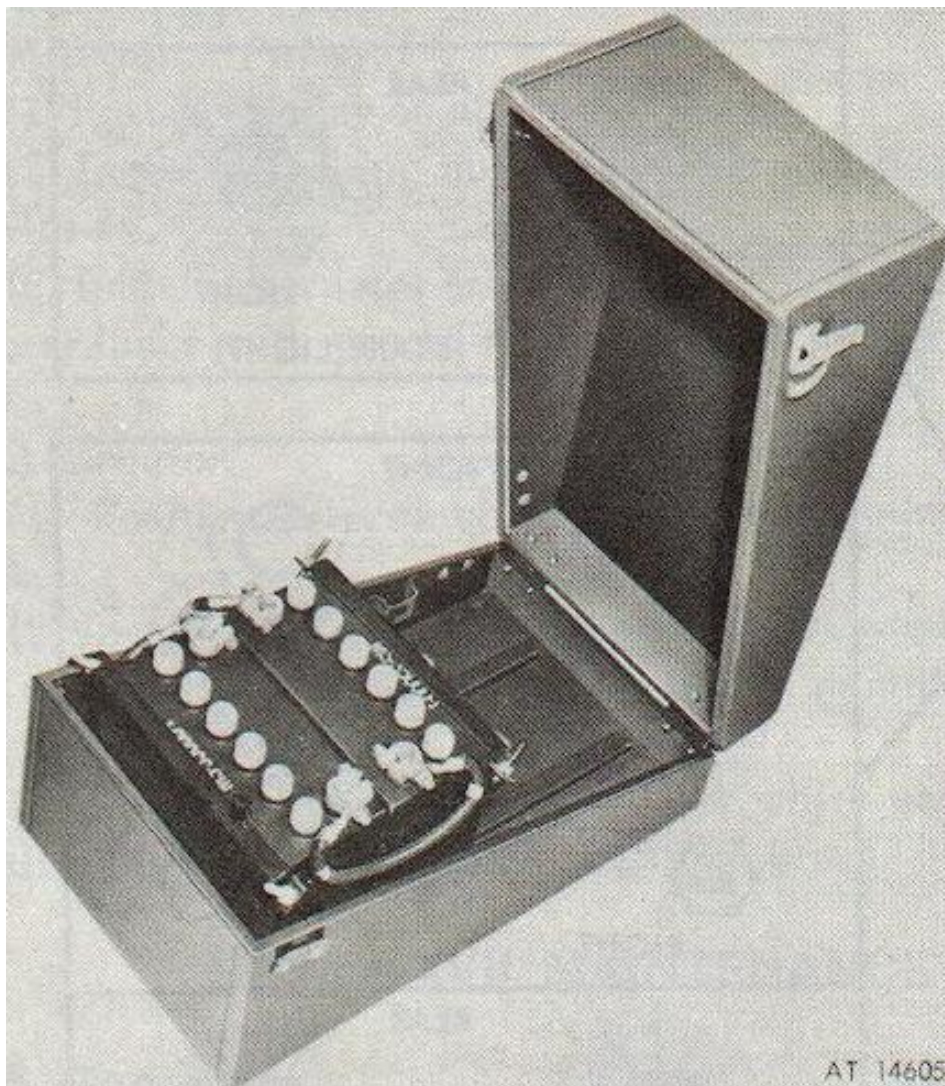
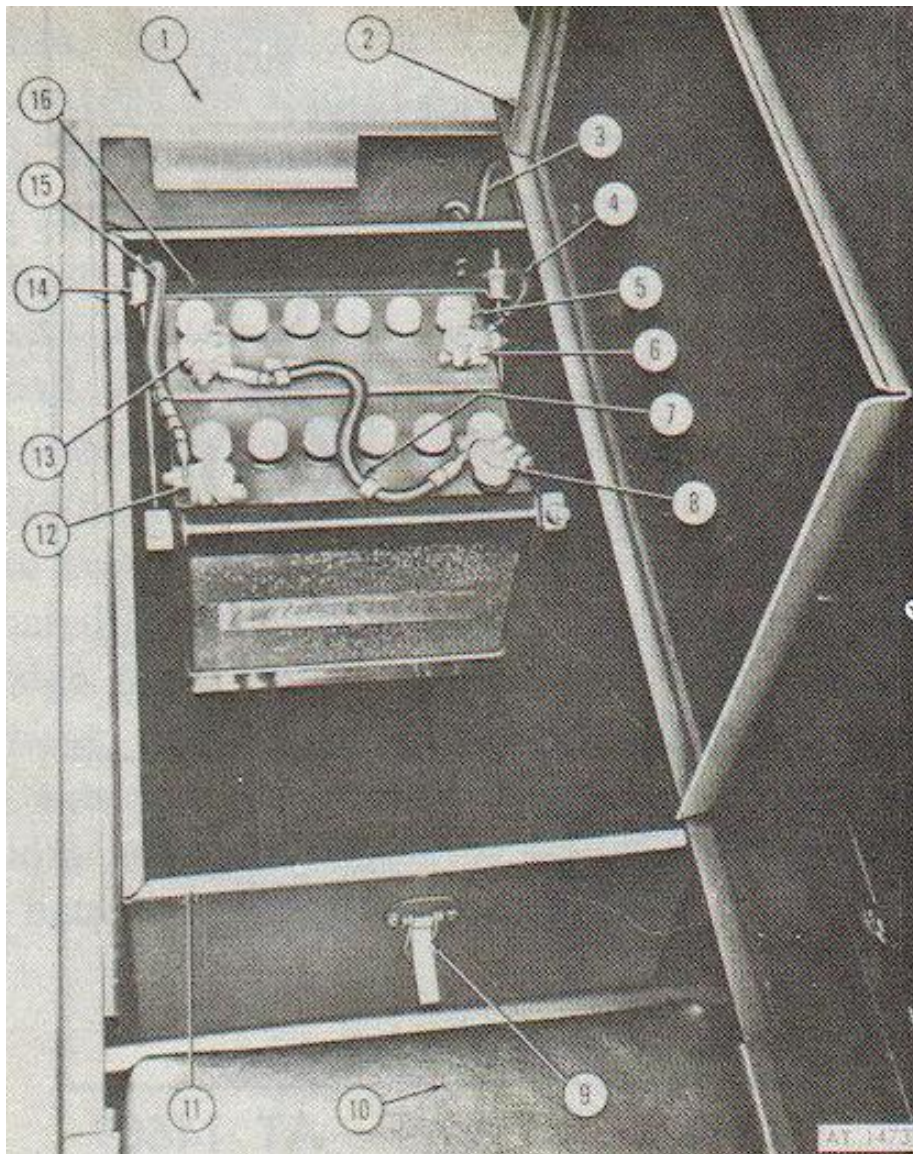

FIGURE 2-38. Batteries, holddown, bolts and straps.
Figure 2-39 Battery compartment (Ambulance).
- a. Batteries. A 24-volt primary circuit is provided by the two 12-volt, lead-acid type storage batteries connected in series (fig 2-38). The batteries incorporate side terminal screw-on connections. As a field expedient, any 45 ampere/hour battery having the same external dimensions may be used with cable terminal adapters. Refer to figure 2-39 for Ambulance battery compartment identification.